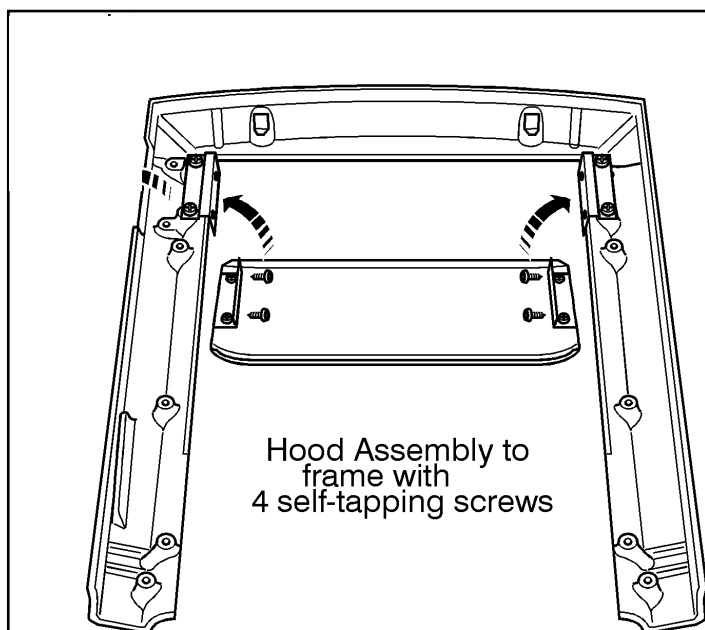

Figure 32A. Fascia preparation (Dream/Masquerade/Excelsior).
1. As supplied the Dream, Masquerade, Excelsior and Trueflame fascia/trim have a hood that requires fitting (See figure 32A), (Figure 32B shows the slightly different hood assembly on the Classica), and (Figure 32C for Trueflame models).